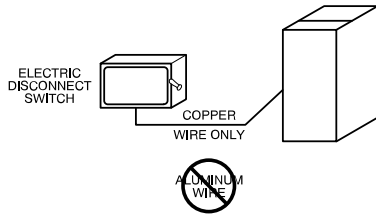

Fig. 34 – Field-Supplied External Electrical Box on Furnace Casing ^{A190279}
Do not connect aluminum wire between disconnect switch and furnace. Use only copper wire. See (Fig. 34).
1. Drill two (2) 1/8-in. (3 mm) pilot holes through the dimples in the furnace casing near the 7/8-in. knockout or plug on the side of the casing. Do not remove the knockout or plug in the side of the casing.
9. Connect field power and neutral leads to furnace power leads inside the external electrical box (Fig. 34).